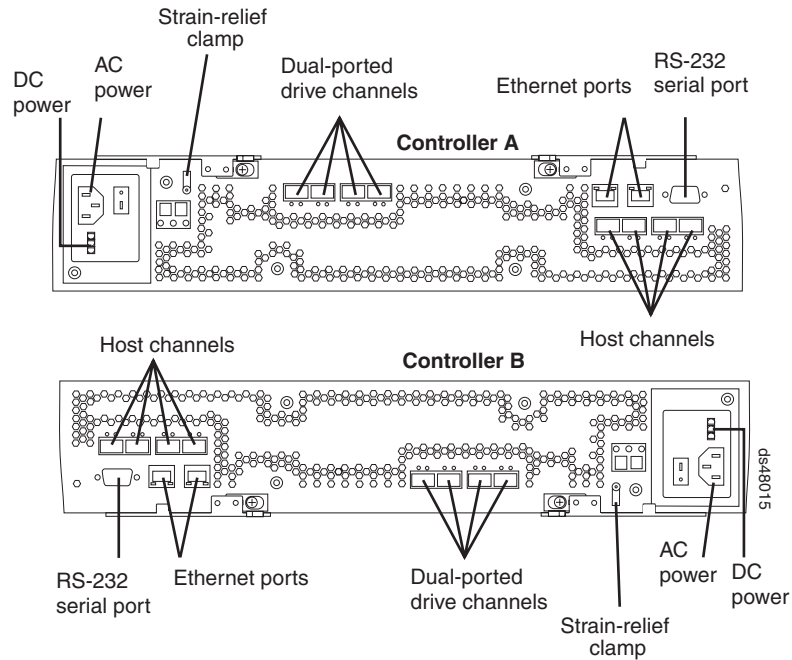

Figure 80. RAID controller connections
**Note:** You do not need to remove the interface cables from the controllers to reset the circuit breakers; however, IBM recommends that you remove the cables to make this procedure easier. If you choose to remove the interface cables, ensure that you label each cable so that you can reconnect them correctly to the controller. Figure 80 on page 134 identifies all of the connectors on the back of the controller.